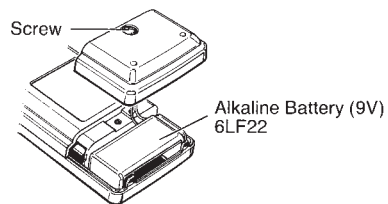

Fig. 7
- (1) Set the power switch to the OFF position.
- (2) Remove the battery compartment cover by unscrewing it as shown in Fig. 7.